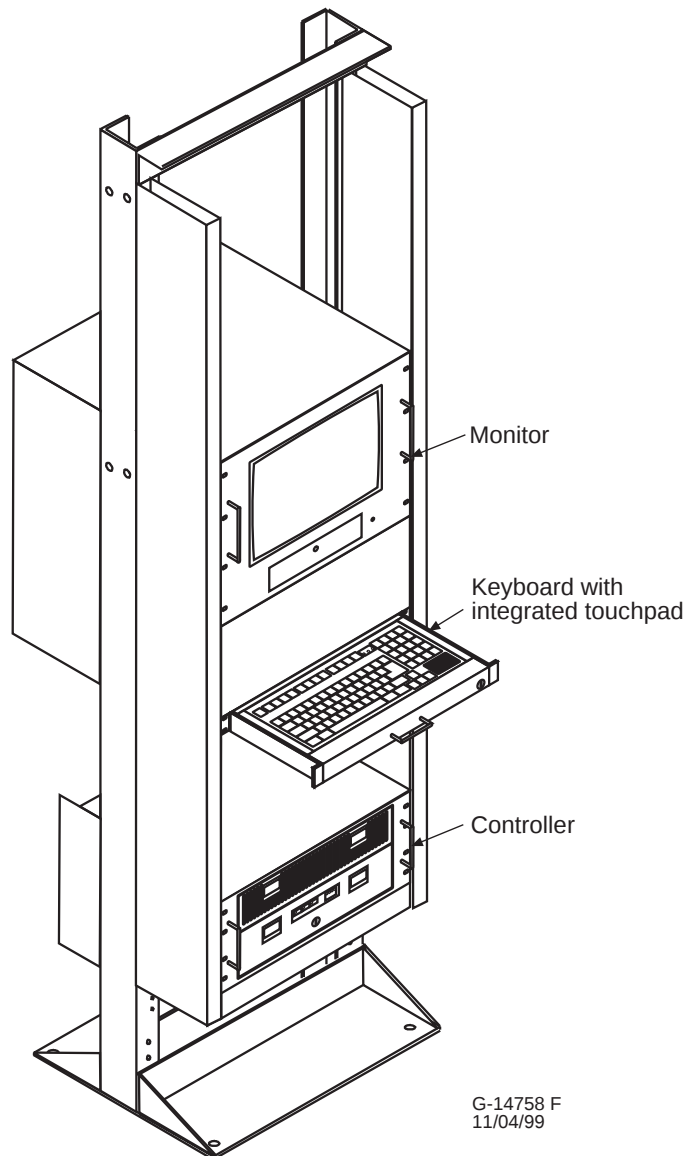

Figure 1-3 Example of full rack mount
- Full rack mount (illustrated in Figure 1-3)